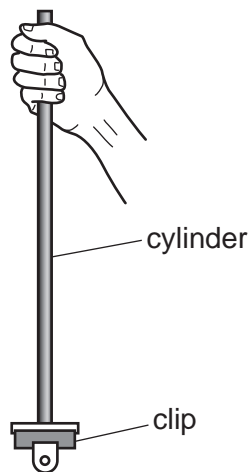

Fig. 2.3
- (c) (i) Attach the clip to one end of the cylinder. Hold the other end of the cylinder so that it hangs vertically as shown in Fig. 2.3.